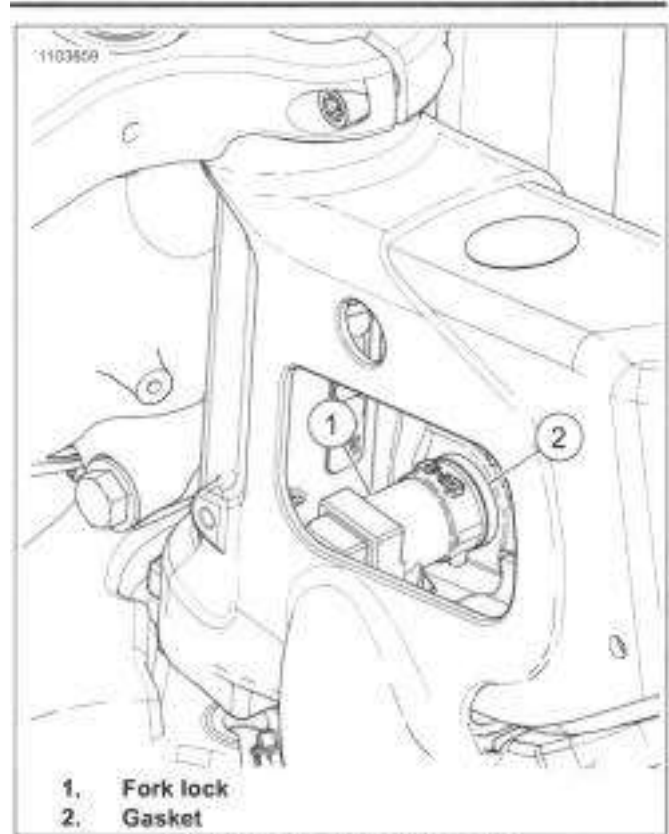

Figure 3-83. Fork Lock Location
3. See Figure 3-83. Remove fork lock (1) and gasket (2).
See Figure 3-83. Place fork lock and gasket in position.